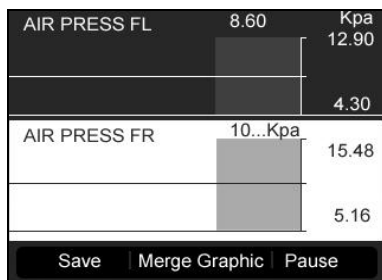
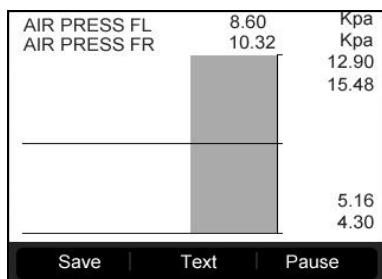

Figure 6.7
Figure 6.8
- When the sensor data is shown in graph, the tool offers two more options: **Two Graphic** and **Merge Graphic**. The first option can display two graphs on the same screen (Figure 6.7), and the last option can merge the two graphs into one. (Figure. 6.8)